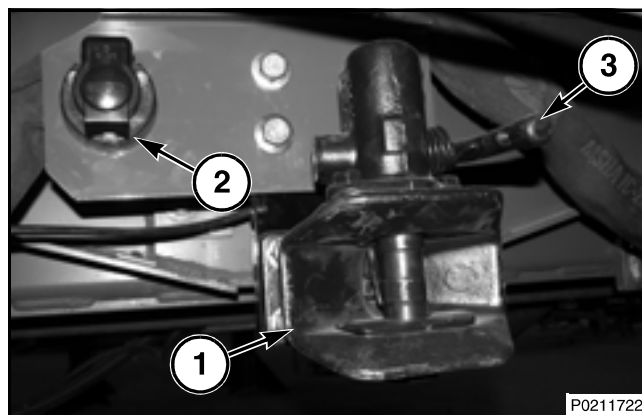

FIG. 306
FIG. 306: The combine is equipped with a trailer hitch (1) and trailer light harness connector (2) on the rear axle. The hitch will automatically latch to the tongue of the trailer. To set the hitch to automatically latch, pull the latch lever (3) to the upright position. The hitch is now set and ready to connect to the trailer.